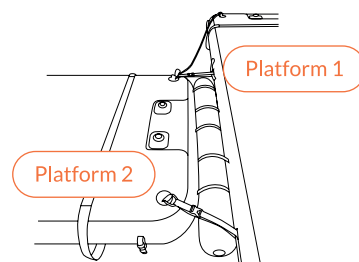

Fig 59 - Inflation complete and Platforms connected
9. The Platforms will then be connected (Fig 59).